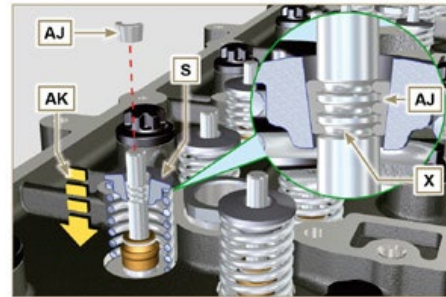

Fig 9.44
3. Check protrusion of injectors by means of the tool **ST_03** (Fig. 9.44), check the projection of the injector, which must range between $1.68 \div 2.42$ mm.